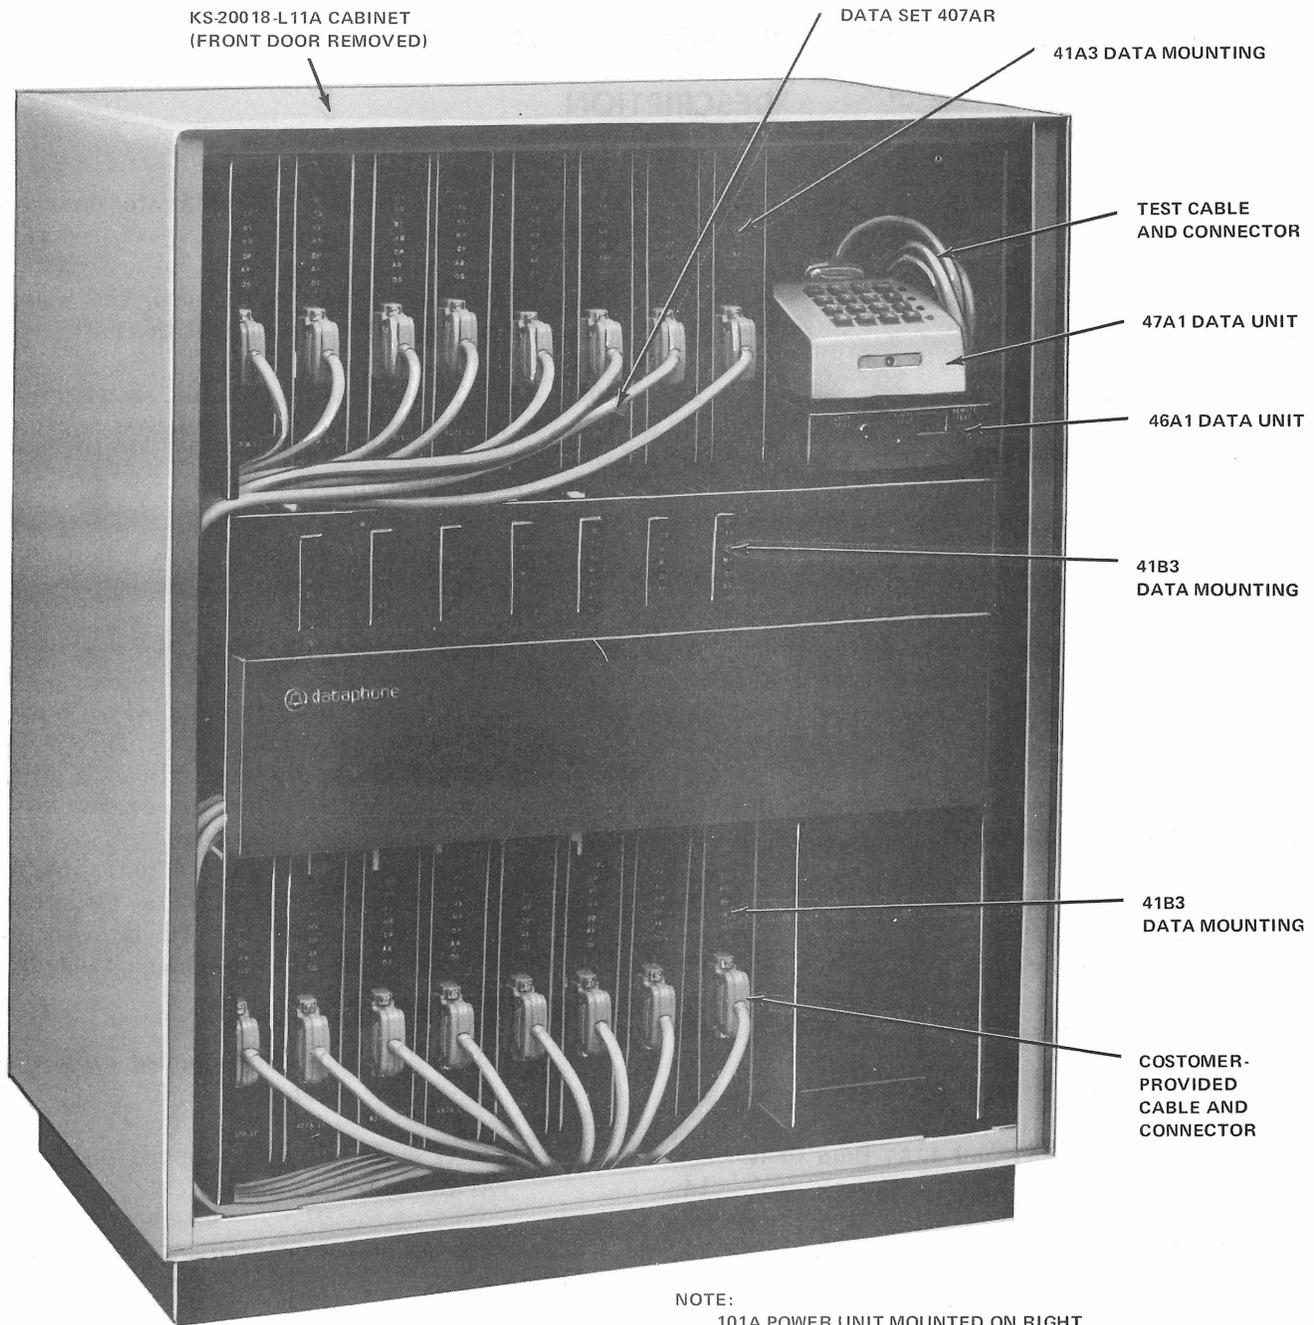

Fig. 1—407AR Multiple Data Station Mounted in a KS-20018-L11A Cabinet—Typical
1.09 The 46A1 data unit (Fig. 1) provided with the 41A3 data mounting enables local or remote testing of any data set 407AR or 407BR in the cabinet.
2.08 The 46A1 data unit (Fig. 1) is about 5-1/4 inches wide, 2 inches high, 4-1/4 inches deep, and weighs about 1-1/2 pounds. This data unit contains a LOCAL-REMOTE test switch, test indication LEDs, and a LAMP TEST switch for testing all LEDs in the cabinet.
2.09 The 47A1 data unit (Fig. 1) is about 4-1/2 inches wide, 2-1/2 inches high, 4-1/2 inches deep, and weighs about 1-1/2 pounds. This data unit is a modified 16-button TOUCH-TONE dial. The data unit contains LEDs across the top and down the right side of the dial.